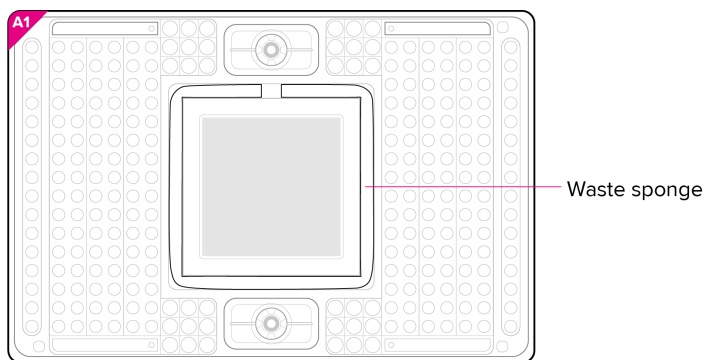

Figure 4. Waste sponge
- 4 Using an 8-channel pipette, transfer 9  $\mu$ L of eluted controls and samples to each well of the sample plate containing the binding buffer/RNaseq mix (Figure 4).